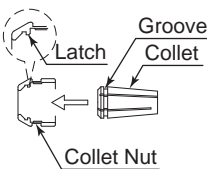
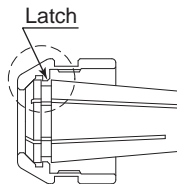
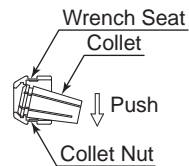
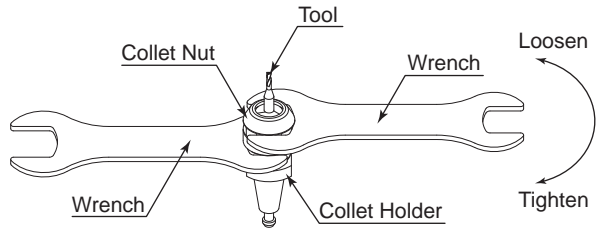

Fig. 5
Fig. 6
Fig. 7
Fig. 9
- (1) Attach the collet to the collet nut. Be sure to fully engage the latch inside the collet nut to the groove on the collets outer circumference area (Fig. 5, Fig. 6) (Install the collet in the collet nut by positioning the collet in the collet nut and pressing down on flat surface (Fig. 7)).
- (3) Insert the tool in to the collet and position the wrench on the collet holder. Position the wrench on the collet nut, then tighten the collet nut by turning clockwise (Fig .9).
- (4) When removing the tool, set the wrench on the collet nut and turn it counterclockwise to loosen the collet and remove the tool (The first turn will loosen the collet nut, but the tool will not release and turning will become stiff. Keep turning through the stiffness and the collet will open.).
- (5) When removing the collet, the collet and collet nut are secured by a groove in the collet and a flange in the collet nut. To remove the collet hold the collet nut in one hand and push diagonally down on the collet. The collet should be released (Fig. 7).